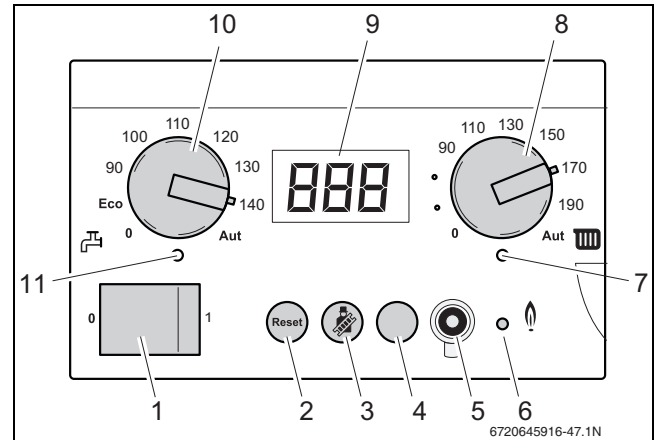

Fig. 65 BC10 basic controller
- ▶ Switch ON the appliance by pressing the main switch of the BC10 basic controller (→ fig. 65, [1]).
- ▶ Press and hold the "Chimney sweep" button (→ fig. 65, [3]) (approx. 2 seconds), until the dot in the right-hand bottom corner of the display (→ fig. 65, [9]) appears (→ table 12, page 31).
- ▶ After the LED "Burner operation" (→ fig. 65, [6]) has lit up wait for 1 minute until the boiler is burning at full load.
- ▶ Press the "Service" button (→ fig. 65, [4]) repeatedly until the temperature reading is shown in the display.
- ▶ Press the "Chimney sweep" button (→ fig. 65, [3]) to clear the reading (→ table 12, page 31).
- ▶ Switch OFF the heating system by pressing the main switch of the BC10 basic controller (→ fig. 65, [1]).
- ▶ Switch ON the heating system by pressing the main switch of the BC10 basic controller (→ fig. 65, [1]).
- ▶ After the LED "Burner operation" (→ fig. 65, [6]) has lit wait for one minute until the boiler is burning at part load.
- ▶ Press the "Chimney sweep" button (→ fig. 65, [3]) until the dot disappears from the display.
- ▶ Press and hold the “Chimney sweep”  button (→ fig. 65, [3]) (approx. 2 seconds), until the dot in the right-hand bottom corner of the display appears (→ fig. 65, [9]) (→ table 12, page 31).
- ▶ After the LED “Burner operation” (→ fig. 65, [6]) has lit wait for 1 minute until the boiler is burning at full load.
- ▶ Press the “Chimney sweep”  button (→ fig. 65, [3]) to clear the reading (→ table 12, page 31).
- ▶ Press and hold the “Chimney sweep”  button (→ fig. 65, [3]) (approx. 2 seconds), until the dot in the right-hand bottom corner of the display (→ fig. 65, [9]) appears (→ table 12, page 31).
- ▶ After the LED “Burner operation” (→ fig. 65, [6]) has lit up wait for 1 minute until the boiler is burning at full load.
- ▶ Switch OFF the appliance by pressing the main switch of the BC10 basic controller (→ fig. 65, [1]).